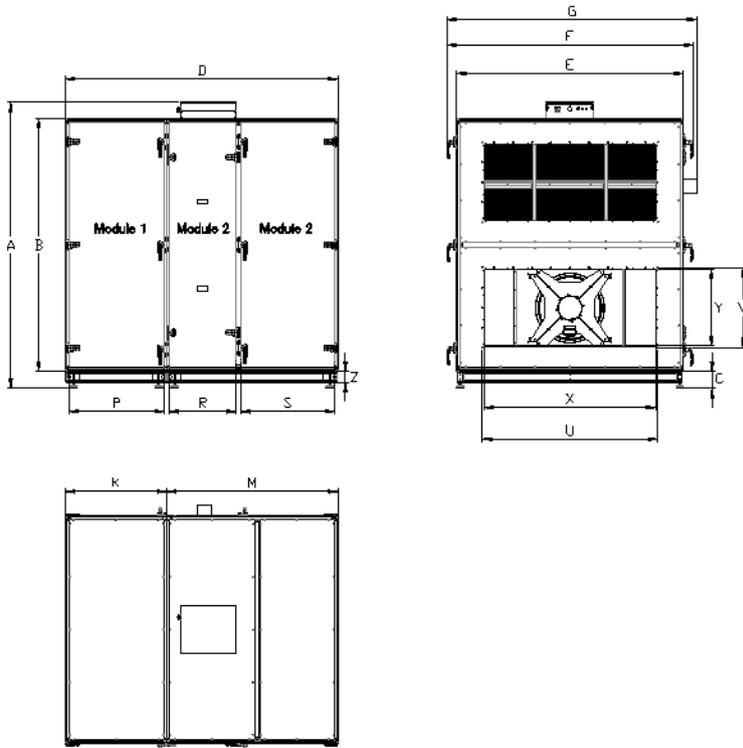

Fig. 26
-Dividable unit (EVO-50R, EVO-60R, EVO-80R, EVO-95R, EVO-120R, EVO-150R) (Fig. 26)
Dimensions (mm) (Fig. 26)